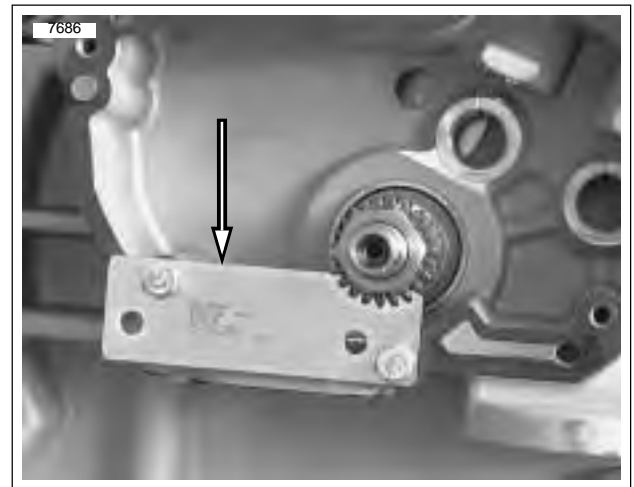

Figure 3-116. Crankshaft Locking Tool (HD-43984)
2. See Figure 3-116. Install nut.